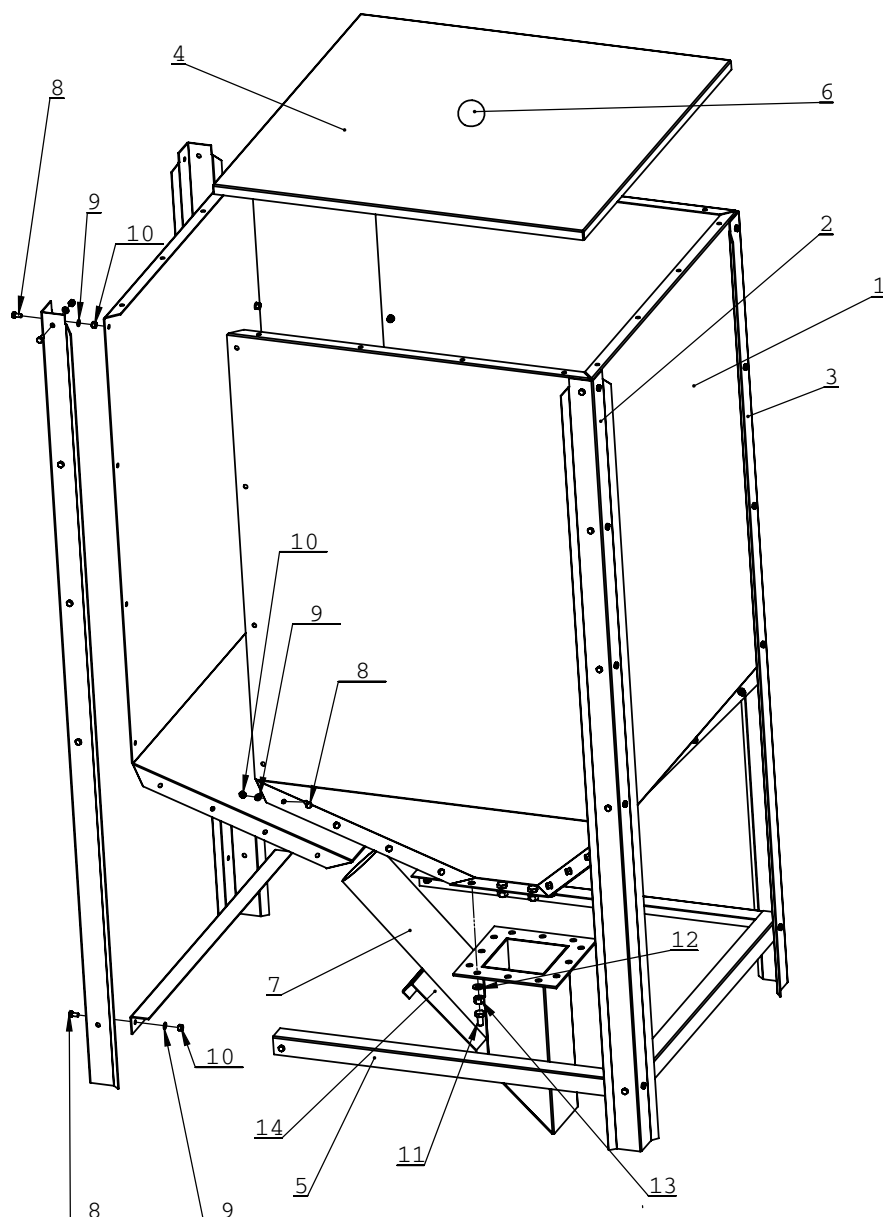

Fig. 15 Tank installation.
12.3 Tank installation (Fig. 15)